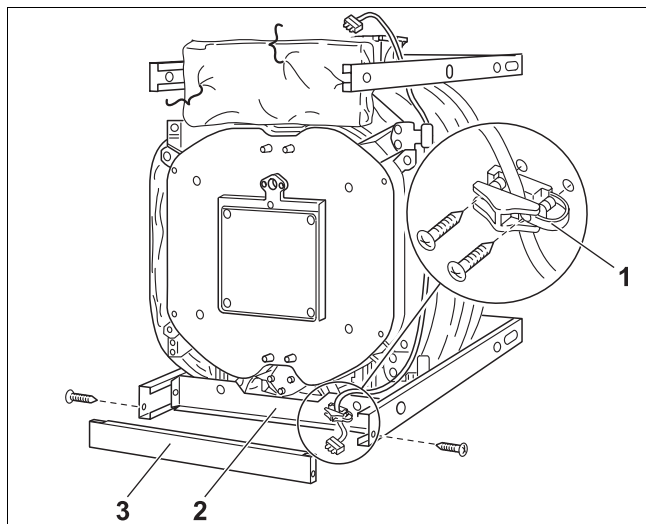

Fig. 43 Fitting the burner cable strain relief and plinth panels
- Depending on which side the door closes, screw the burner cable strain relief to the left or right hand side of the lower cross bar (→ Fig. 43 – for right-hand burner door closure).